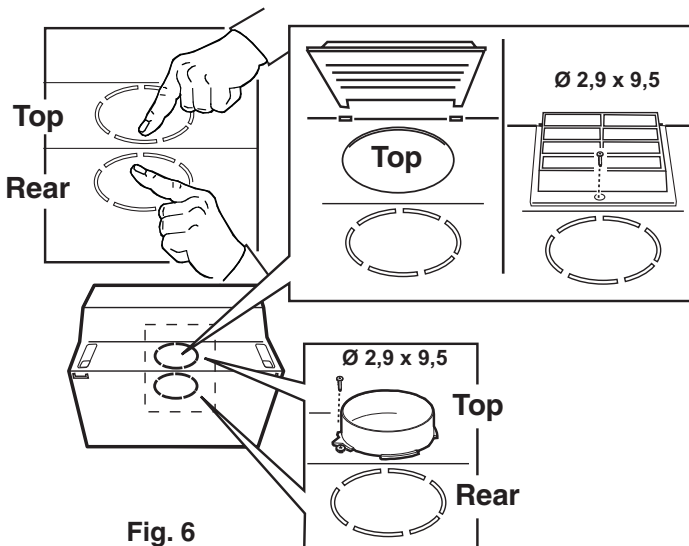

Fig. 6
- **Choose the exhaust hole to use- Fig. 6:**